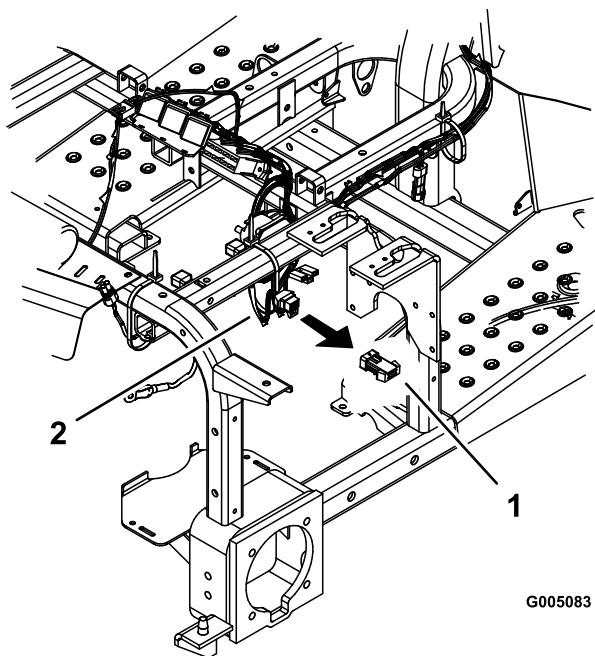

Figure 34
5. Remove the jumper wire from the main harness under the control panel (Figure 34).